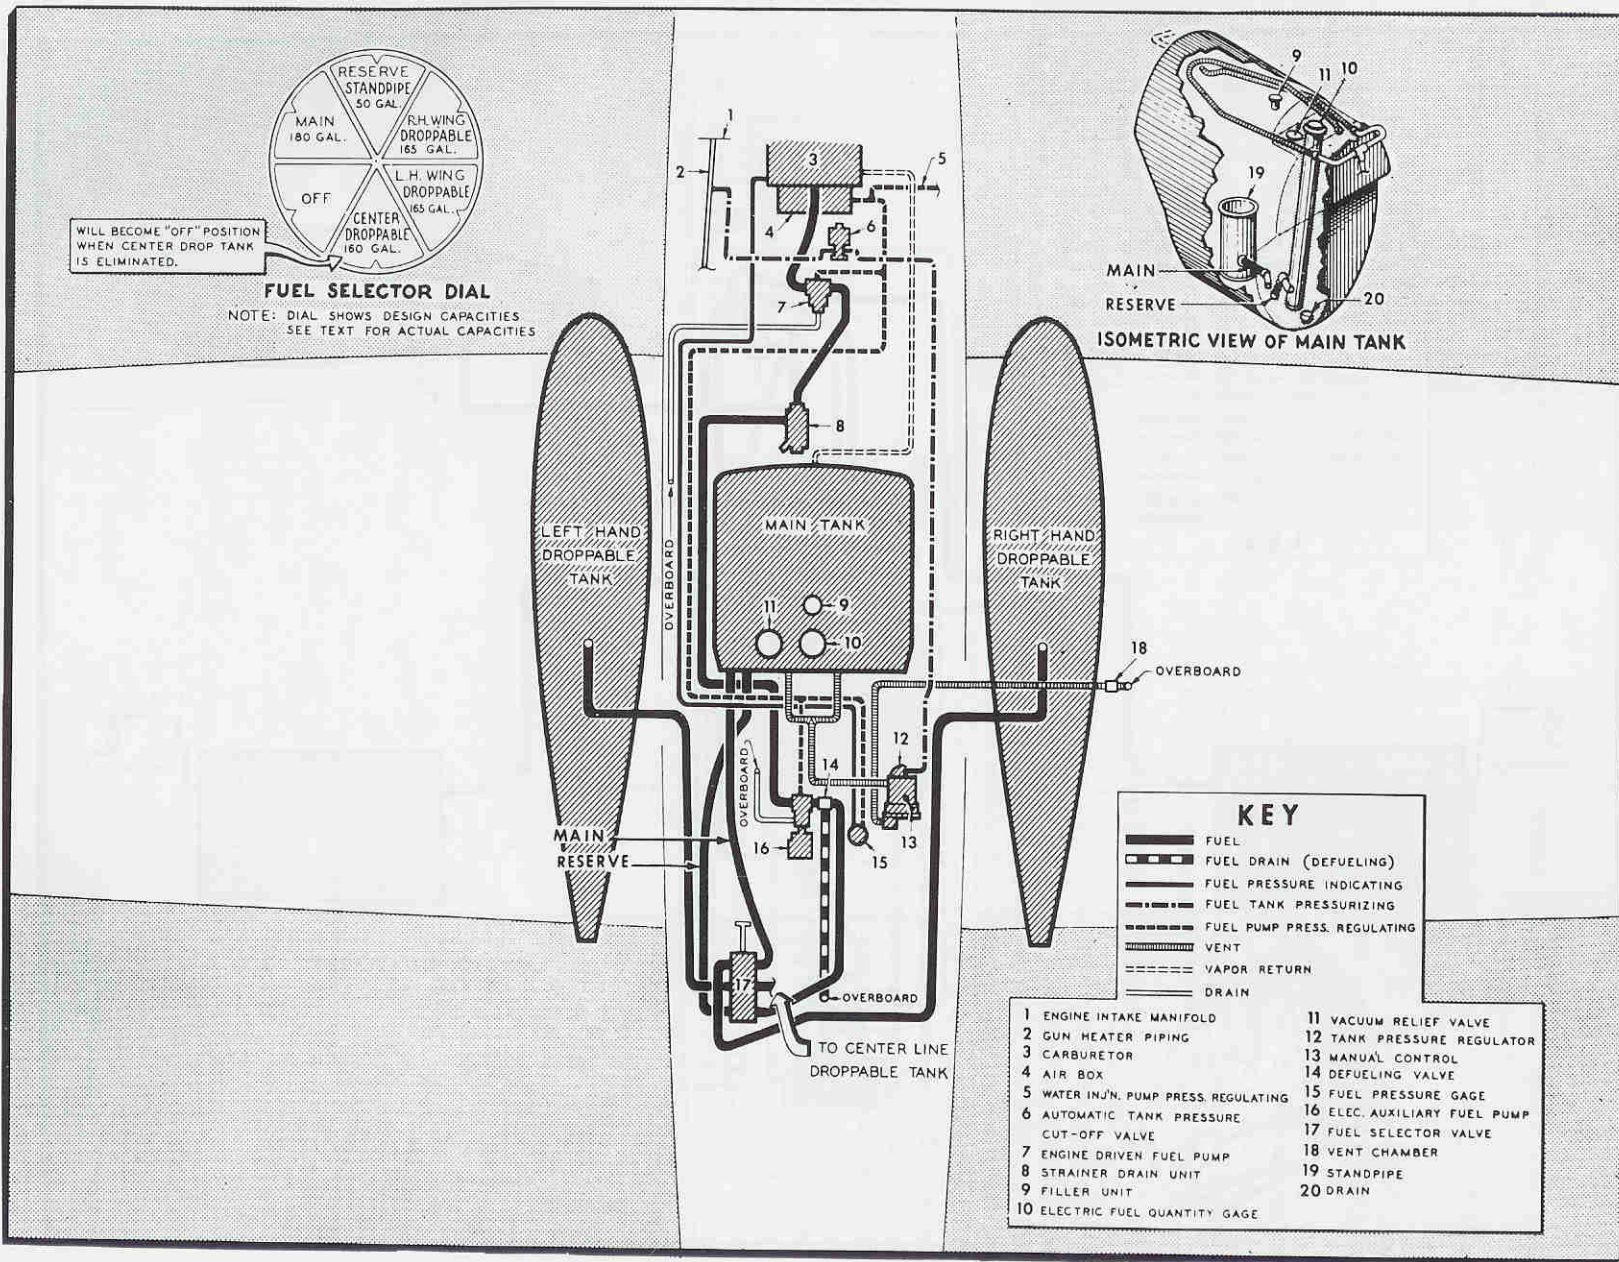

Fig. 11A — Fuel System on Airplanes with Twin Pylon Droppable Tanks
(2) The fuel system for Model F4U-1D, F3A-1D, FG-1D and British airplanes, serial number JT-555 and subsequent, is shown on figure 11A. This system includes provisions for installing two Navy standard-type droppable tanks, each with a capacity of 154 U.S. gallons (129 Imp. gallons) of fuel, on the center section twin pylons. Lockheed-type droppable tanks which have a capacity of 170 U.S. gallons (142 Imp. gallons), may be installed in place of the Navy Standard-type tanks when the latter are not available. The original main tank and the provisions for installing a droppable tank under the fuselage are retained on these airplanes. However, the two wing tanks and their vapor dilution system are eliminated.